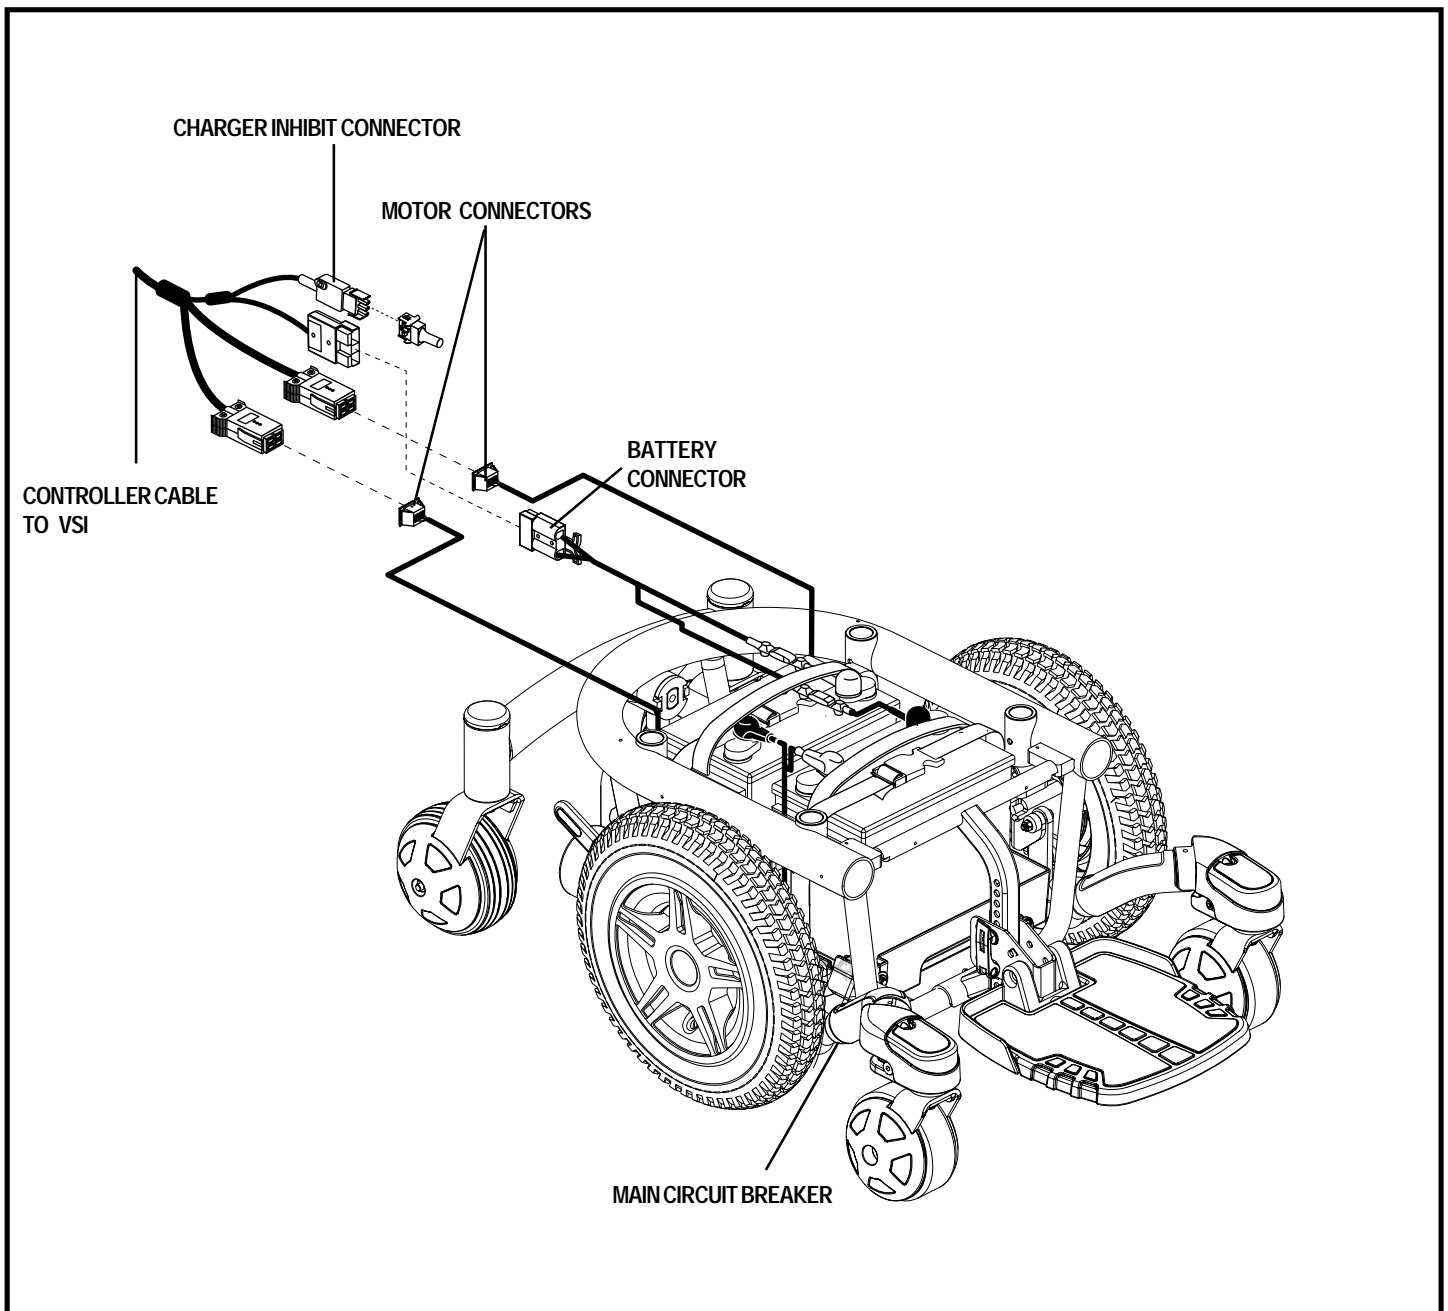

Figure 7. Quantum 600E Electrical Components
The electrical components consist of the controller assembly, the batteries, and the motors. The batteries and the motors are located on the power base assembly. The controller is located on the seat assembly. Connectivity between the controller and the motors and the batteries is provided by a controller cable. See figure 7.
3. Disconnect the controller connector(s) from the power base. See figure 7.